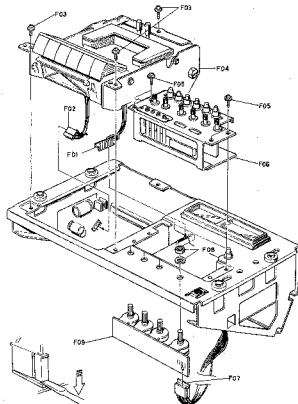

Fig. 3.3
Refer to Fig. 3.3. Remove front panel ass'y referring to above items 3.1 through 3.5. Remove F01 through F03 and F04 (mechanism ass'y).
Refer to Fig. 3.3. Remove front panel ass'y referring to item 3.5. Remove F05 and F06 (front control ass'y).
Refer to Fig.3.3. Remove front panel ass'y referring to item 3.5. Remove F07 through F09 (volume P.C.B. ass'y).